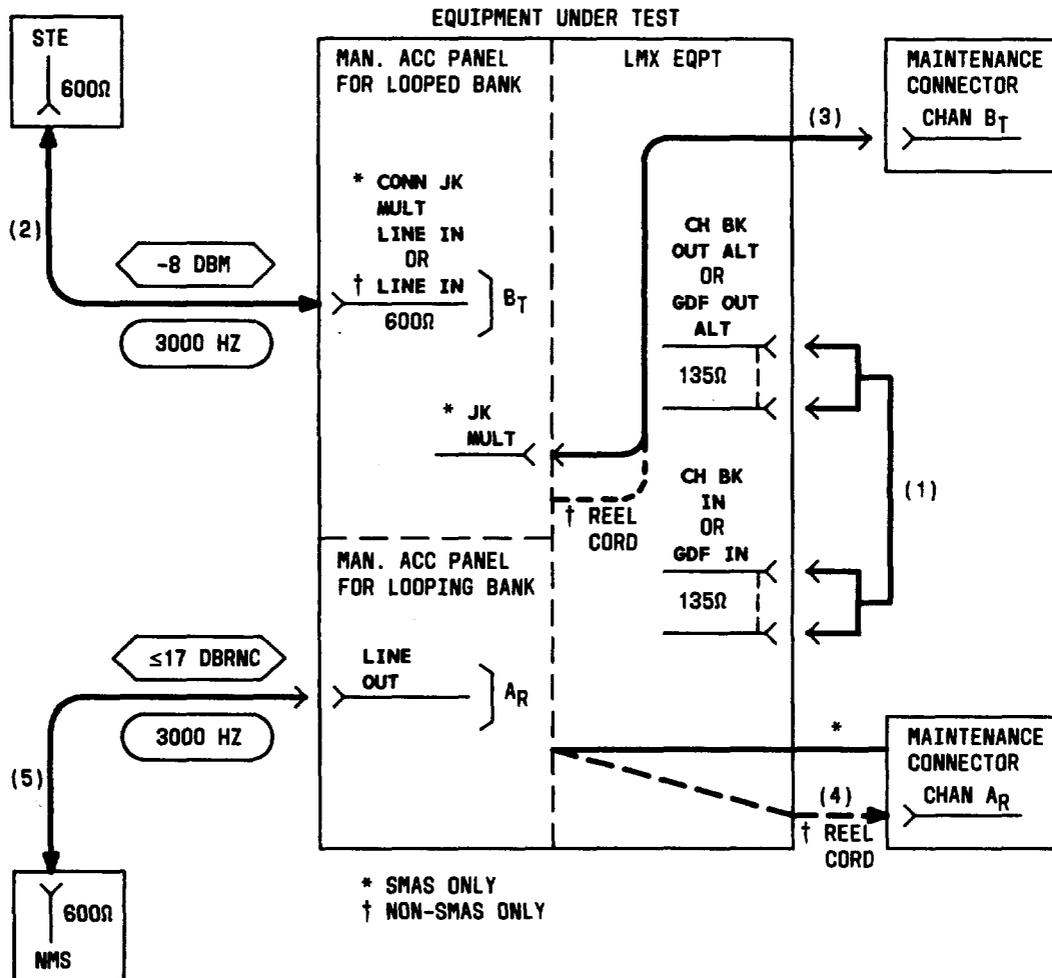

Fig. 23—Patching Diagram—Crosstalk Test—Unequal-Level Looping—Lower Adjacent Channel (3000 Hz)
15a*	Connect the JK MULT connector (on the 22AR or AT MAP) to the CHAN BANK connector (on the maintenance connector) for the looped channel designated B _T for Test A in Table J [patch (3), Fig. 23].
- 15b† On the adjacent non-SMAS J98626() frame, connect the retractable cord (on the 22AU MAP) to the CHAN BANK connector (on the maintenance connector on the frame under test) for the **looped** channel designated B_r for Test A in Table J [patch (3), Fig. 23].
- 16b† Connect the retractable cord (on the 22AU MAP) to the CHAN BANK connector for the **looping**-channel position designated A_R for Test A in Table J [patch (4), Fig. 23].
18	Connect the NMS to the LINE OUT jack [patch (5), Fig. 23].
22	Remove patch (3), Fig. 23 [and patch (4), if used] from the maintenance connector(s). Note: If the J98622AR or AT manual access panel is used, patch (5) must be removed from the LINE OUT jack.